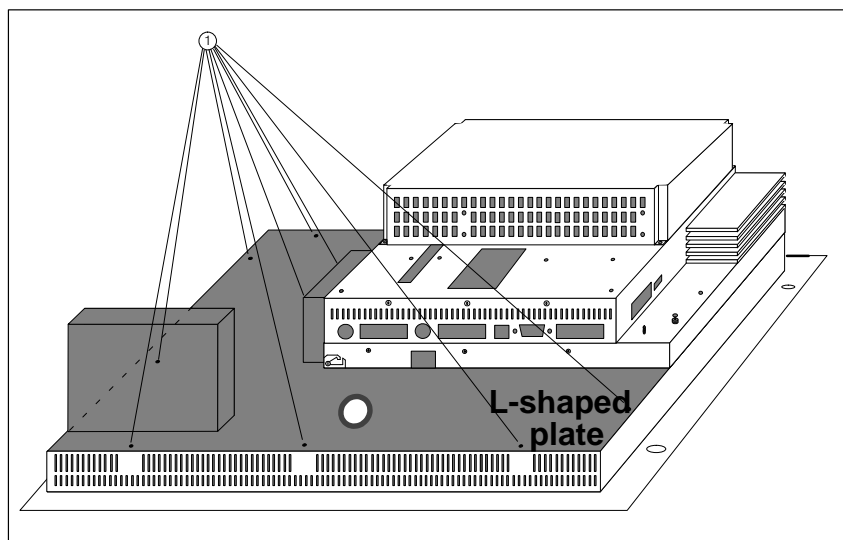

Figure 6-3 Removing the L-shaped plate.
2. Release the nine screws marked in Figure 6-3 with the number ① from the L-shaped plate; two of them are on the cover plate next to the PCMCIA slot.
3. Remove the L-shaped plate shaded grey in Figure 6-3.
Folding out PC box To replace the backlighting, the PC box must be folded out after the L-shaped plate has been removed (see Figure 6-3).